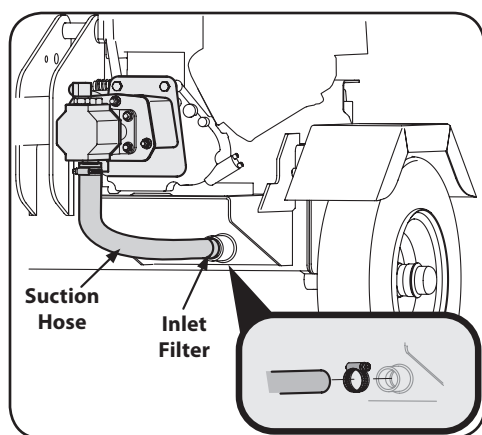
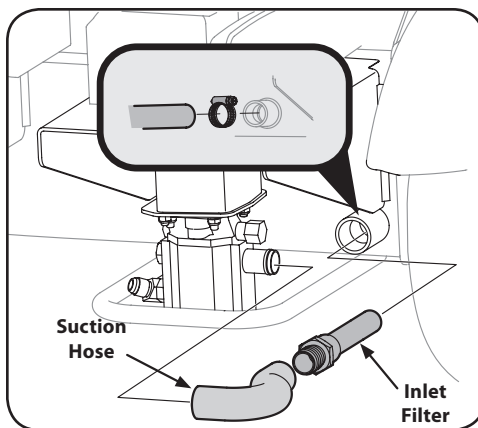

Figure 5-1
Figure 5-2
2. If your engine has a horizontal engine set-up shown in Figure 5-1, see Figure 5-1 for changing the hydraulic fluid. If your engine has a vertical set-up shown in Figure 5-2, see Figure 5-2 for changing the hydraulic fluid.
3. Disconnect the suction hose from the bottom of the reservoir tank. See Figure 5-1 for horizontal engines or Figure 5-2 for vertical engines.